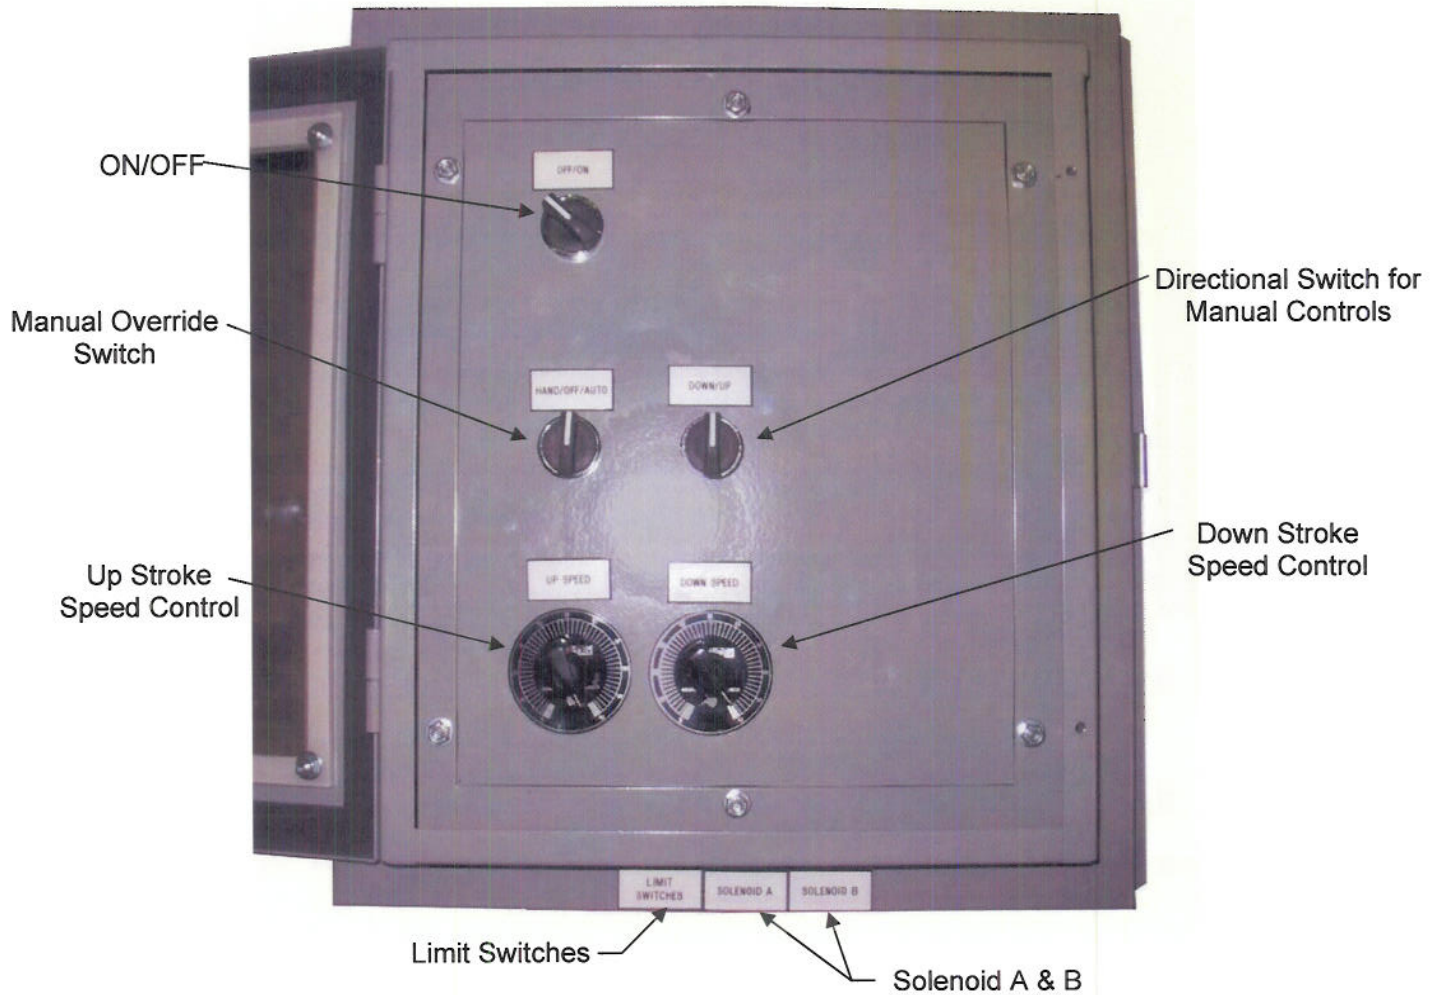

Figure 3
2.2 Corlift 18-120 Start-up Procedure (see Figure 3)